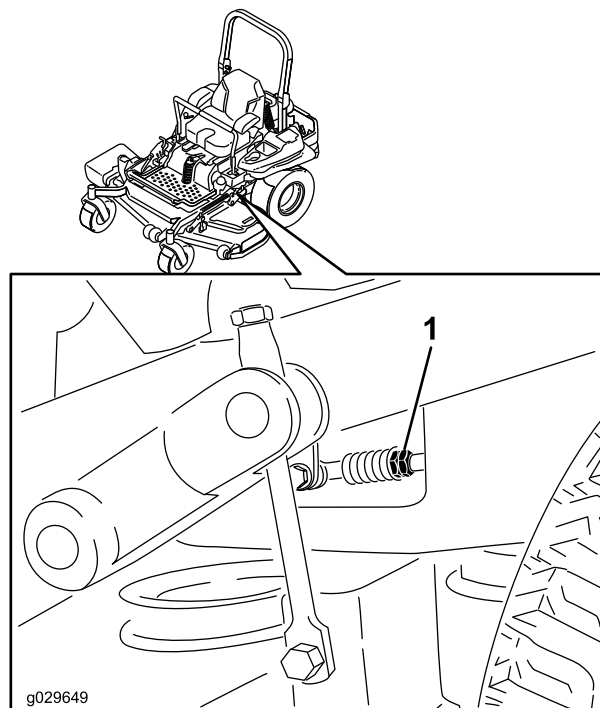

Figure 85
9. Adjust the pump control rod lengths by rotating the double nuts on the rod in the appropriate direction until the wheels slightly creep in reverse (Figure 85).